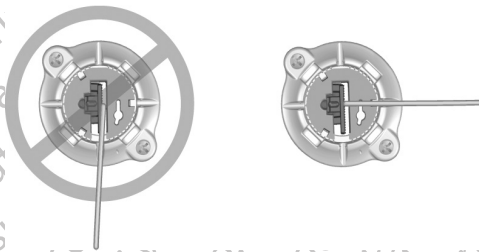

Figure 22. Placing the DBS Lead into the Lead Exit Slot
10. Gently fold the DBS Lead over and place it inside one of the four Lead Exit Slots in the Base of the Burr Hole Cover (Figure 22).